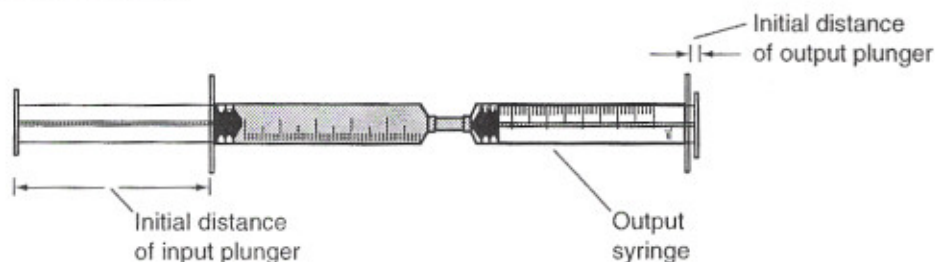

Figure 3.
- Measure the initial distance the input plunger is from the end of the syringe body. See Figure 3. Record this distance to the nearest 0.1 cm in Data Table 2.
- Measure the initial distance the output plunger is from the end of the syringe body. See Figure 3. Record this distance to the nearest 0.1 cm in Data Table 2.